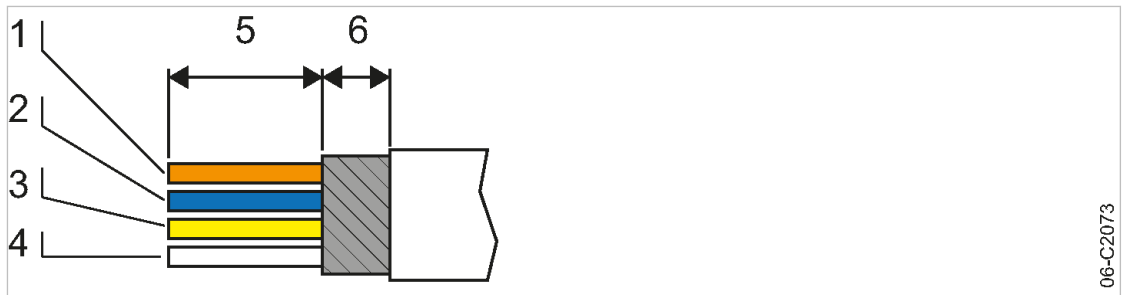

Fig. 18 Strip the insulation from the network cable
1. Strip the insulation from the network cable (see Fig. 18).
2. Spread out the wires according to the color coding of the contact elements on the RJ45 connector (see Fig. 18).